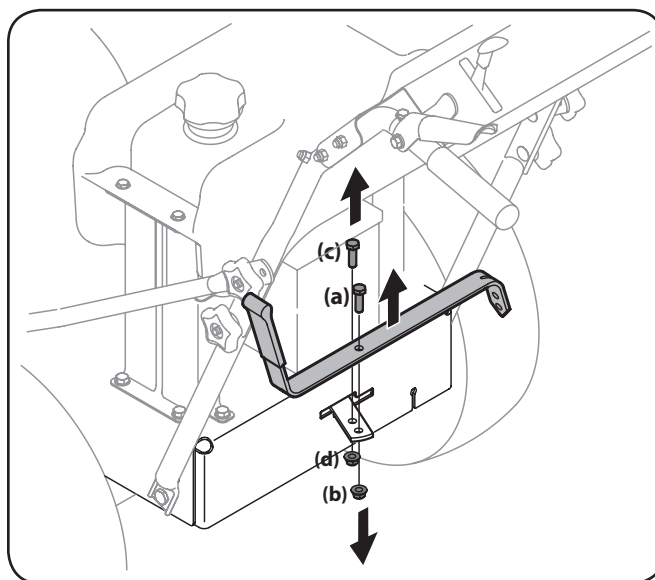

Figure 3-5
1. Remove the screw (a) and lock nut (b) that secures the shift lever to the shift lever plate. See Figure 3-5.
2. Remove the remaining screw (c) and nut (d) from the lower shift lever plate. See Figure 3-5.